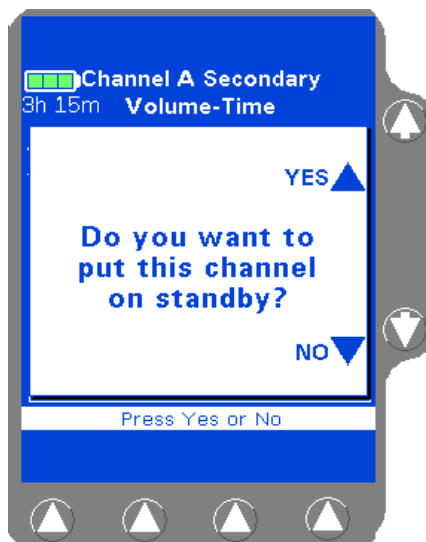
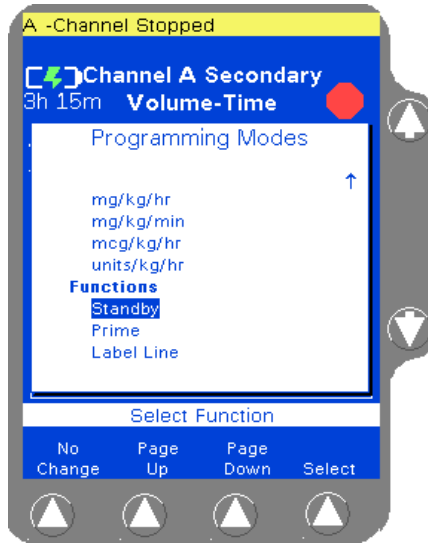

Figure 4-76 Standby Pop-up
Figure 4-77 Programming Modes Menu
3. Press the **Channel Select** key again. The Standby pop-up is displayed (Figure 4-76).
Standby can also be selected from the Programming Modes menu (Figure 4-77). After **Channel Select** is pressed (step 1 above), press the **Change Mode** soft key, then use the $\uparrow\downarrow$ keys to highlight **Standby** and press the **Select** soft key. The Standby pop-up is displayed (Figure 4-76). Continue with step 4 above.